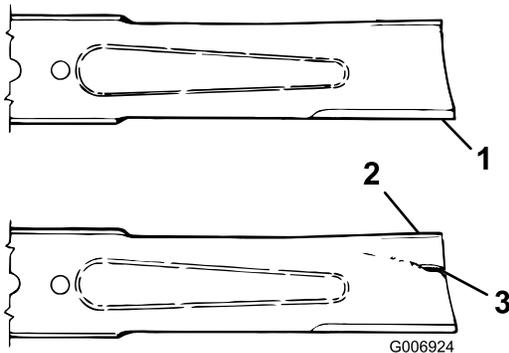

Figure 58
2. Examine the cutting ends of the blade carefully, especially where the flat and curved parts of the blade meet (Figure 58). Since sand and abrasive material can wear away the metal that connects the flat and curved parts of the blade, check the blade before using the
machine. If wear is noticed (Figure 58), replace the blade; refer to Removing the Cutter Blade.
If the blade is allowed to wear, a slot will form between the sail and flat part of the blade (Figure 58). Eventually a piece of the blade may break off and be thrown from under the housing, possibly resulting in serious injury to yourself or bystanders.